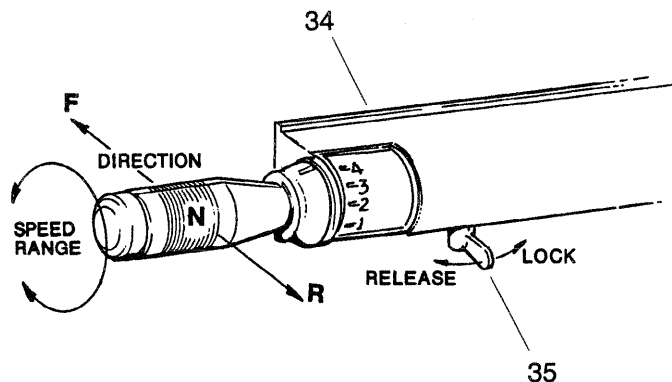

Fig. 3-12 Transmission Control Handle
34. Transmission Control Handle See Fig. 3-12